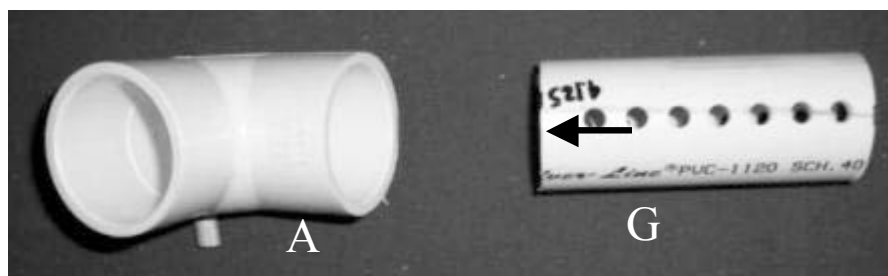

FIGURE 13 – Step 9 – Upper Rear Wheelchair Frame.
Step 9. Coat the inner surface of an opening of Part A with PVC glue and insert Part G into this opening. Align the holes horizontally at the midpoint of the pipe (Figure 13). Use a mallet to seat the connection.